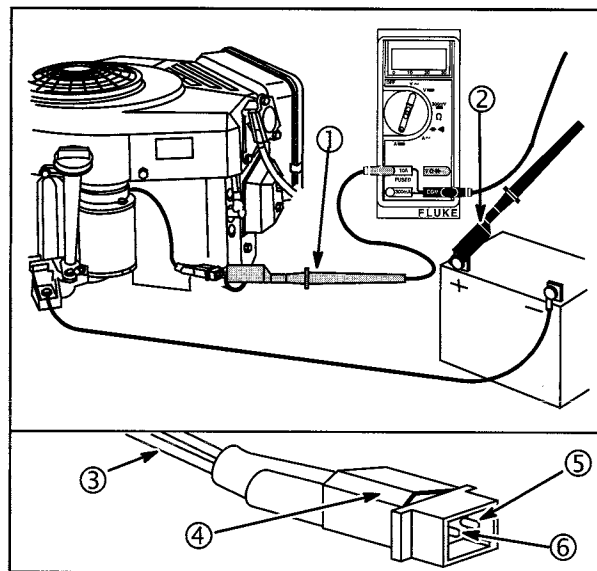

Fig. 16
4. Attach RED test lead clip (1) to DC output pin (6) in connector (4), Fig. 16.